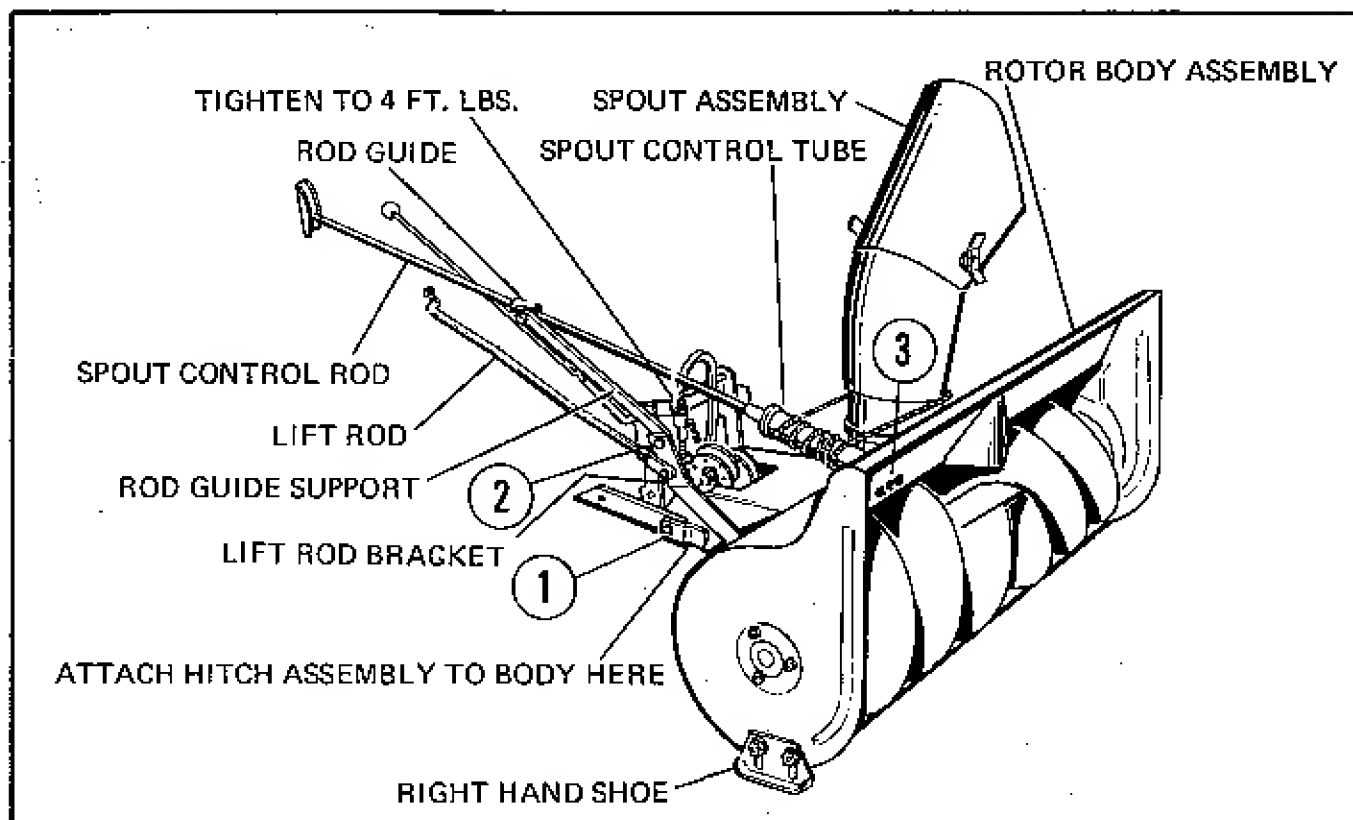

Figure 1.
1. Attach hitch assembly to rotor body assembly with the 3/8"-24 x 1-1/2" long hex. head bolt, 3/8" plain and 3/8" spring washer. Secure in place with the 3/8"-24 hex full lock nut. See (1), Figure 1. Tighten with sufficient pressure to keep hitch from drooping when installing thrower to tractor.
9. Attach the rod guide support to top hole of lift rod bracket with 3/8"-16 x 1-1/4" capscrew, 3/8" lockwasher and 3/8"-16 full hex nut. Do not tighten. See (2), Figure 1.
10. Insert spout control tube into nylon gearing on body assembly (See (3), Figure 1) and secure in place with two 1/8" x 3/4" cotter pins. Insert the spout control rod in the spout control tube and secure with the 5/32" x 1" cotter pin.